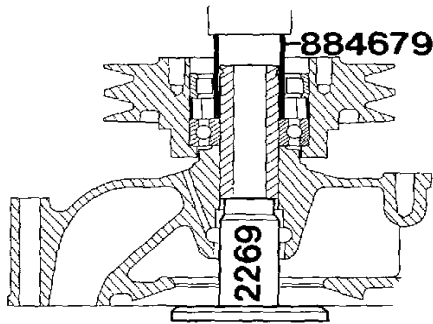

Fig. 169.
- Place the fixture 2269 where the impeller fits (fig. 169). Press the hub/belt pulley onto the pump housing shaft journal, use sleeve 884679.